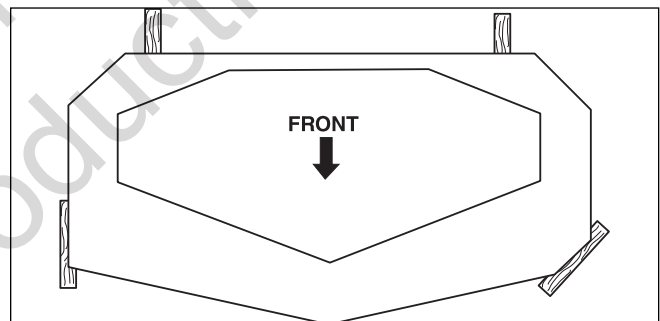

Figure 45. 2 X 4 Locations
6. Block up the mower deck until all hanger chains are slack. See Figure 45.